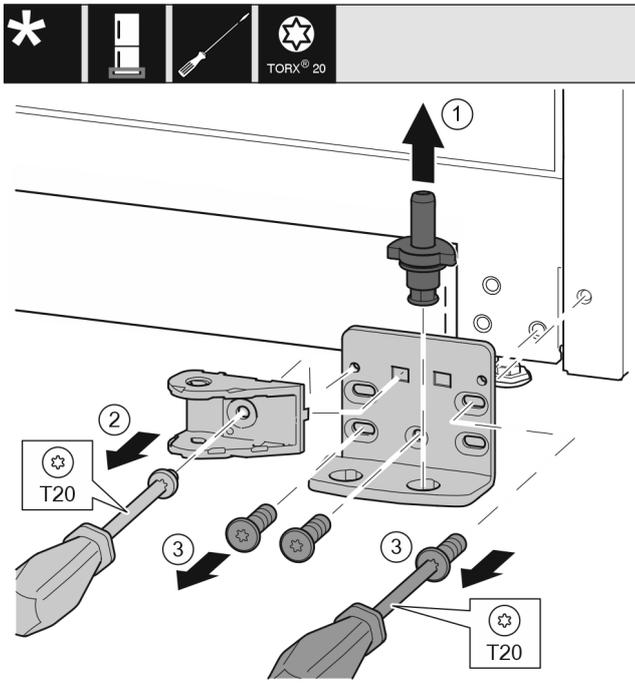

Fig. 41
- ▶ Pull the bearing bolt Fig. 41 (1) out upwards completely.
- ▶ Use screwdriver to unscrew the screw Fig. 41 (2) and remove the closing damper connection.
- ▶ Use screwdriver to unscrew the screws Fig. 41 (3) and remove the swap bearing block.